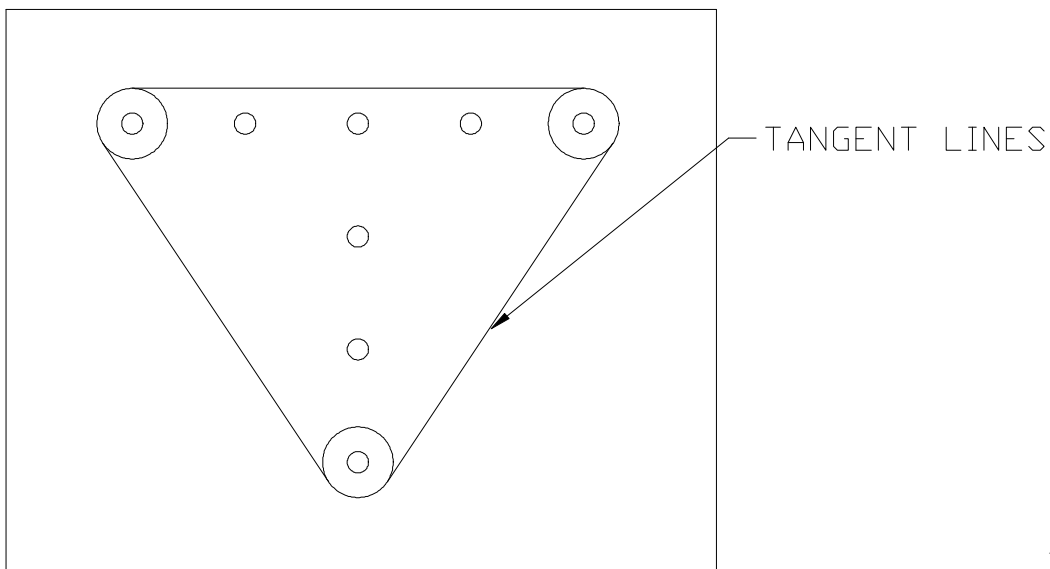

Figure 1.25.3
- 5) Draw tangent lines to the circles. See Figure 1.25.3.